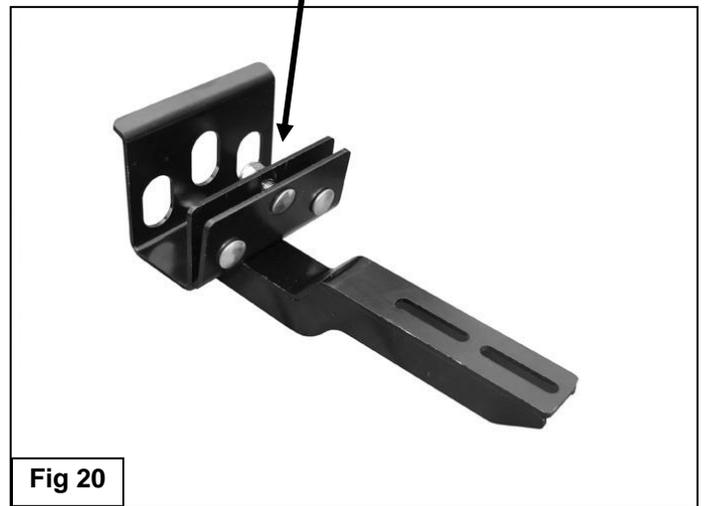

Fig 20
17. Reinstall the center Bracket assembly, (**Figures 20 & 21**). Line up the outer Clamp Plate with the drilled hole. Pull the plastic cover back a little, (**Figure 21**), and insert (1) 8mm Carriage Bolt through the center hole in the Outer Clamp Plate, the drilled hole and into the Bracket. **IMPORTANT:** Release the factory plastic clips in the bottom of the plastic rocker cover for easier installation of the 8mm Carriage Bolt, (**Figure 21**). Secure the Bracket to the center bolt with (1) 8mm Flat Washer and (1) 8mm Nylon Lock Nut, (**Figures 22 & 23**).